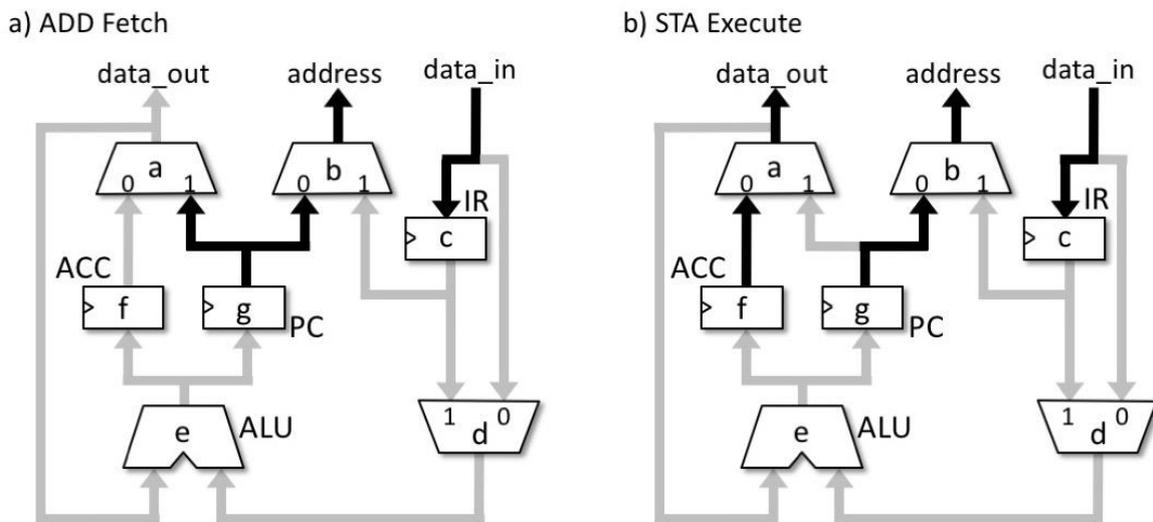

Figure Q1.1
- a) Figure Q1.1 illustrates the datapath for the MU0 processor where a student has attempted to shade the path usage for a) the fetch phase of an ADD instruction, and b) the execute phase of a STA instruction. However, in both cases a number of mistakes have been made. Identify the errors made by the student. (2 marks)